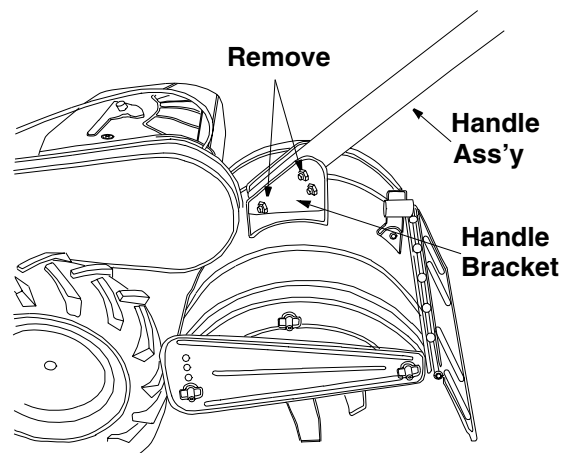

Figure 3
- Remove top two bolts and flange lock nuts from handle mounting brackets as shown in Figure 3. Do not remove the bottom bolt and nut.
- Place handle assembly in position between the handle mounting brackets. See Figure 3.